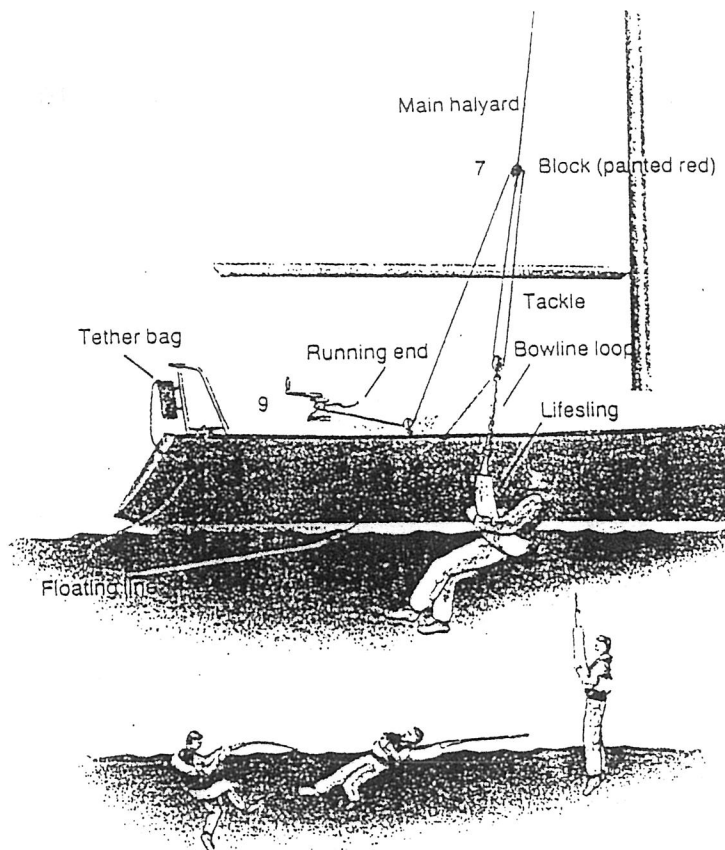

Fig. 3 Use of the Lifesling, illustrated here, may be the only way one person can get a tired victim back aboard a boat.
6. As the boat drifts slowly backward, the crew begins pulling the sling and the victim to the boat. If necessary, a cockpit winch can be used to assist in this phase, which should continue until the victim is alongside and pulled up *tightly* until he is suspended in the sling (so that he will not drop out) with his head and shoulders out of the water. Cleat the line. The victim is now safe (Figure 3).
7. Attach a three- or four-part tackle to the main halyard, haul it up to a predetermined point, about 10 feet above the deck or high enough so that the victim can be hoisted up and over the lifelines. Cleat off the halyard (Figure 3).